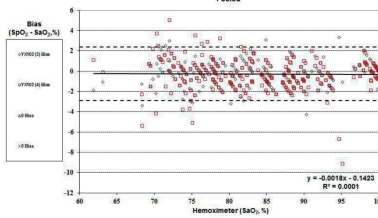

Figure 3 YX102
6.The technology used in Finger Pulse Oximeter has been verified with accuracy when there is no motion via human blood studies on healthy adult volunteers, of both male and female with light to dark pigmented skin in induced hypoxia studies in the range of 70%~100% SpO₂ against a laboratory co-oximeter. Graphical Plot of SaO₂ versus error (SpO₂ - SaO₂) (See Figure 3、4)